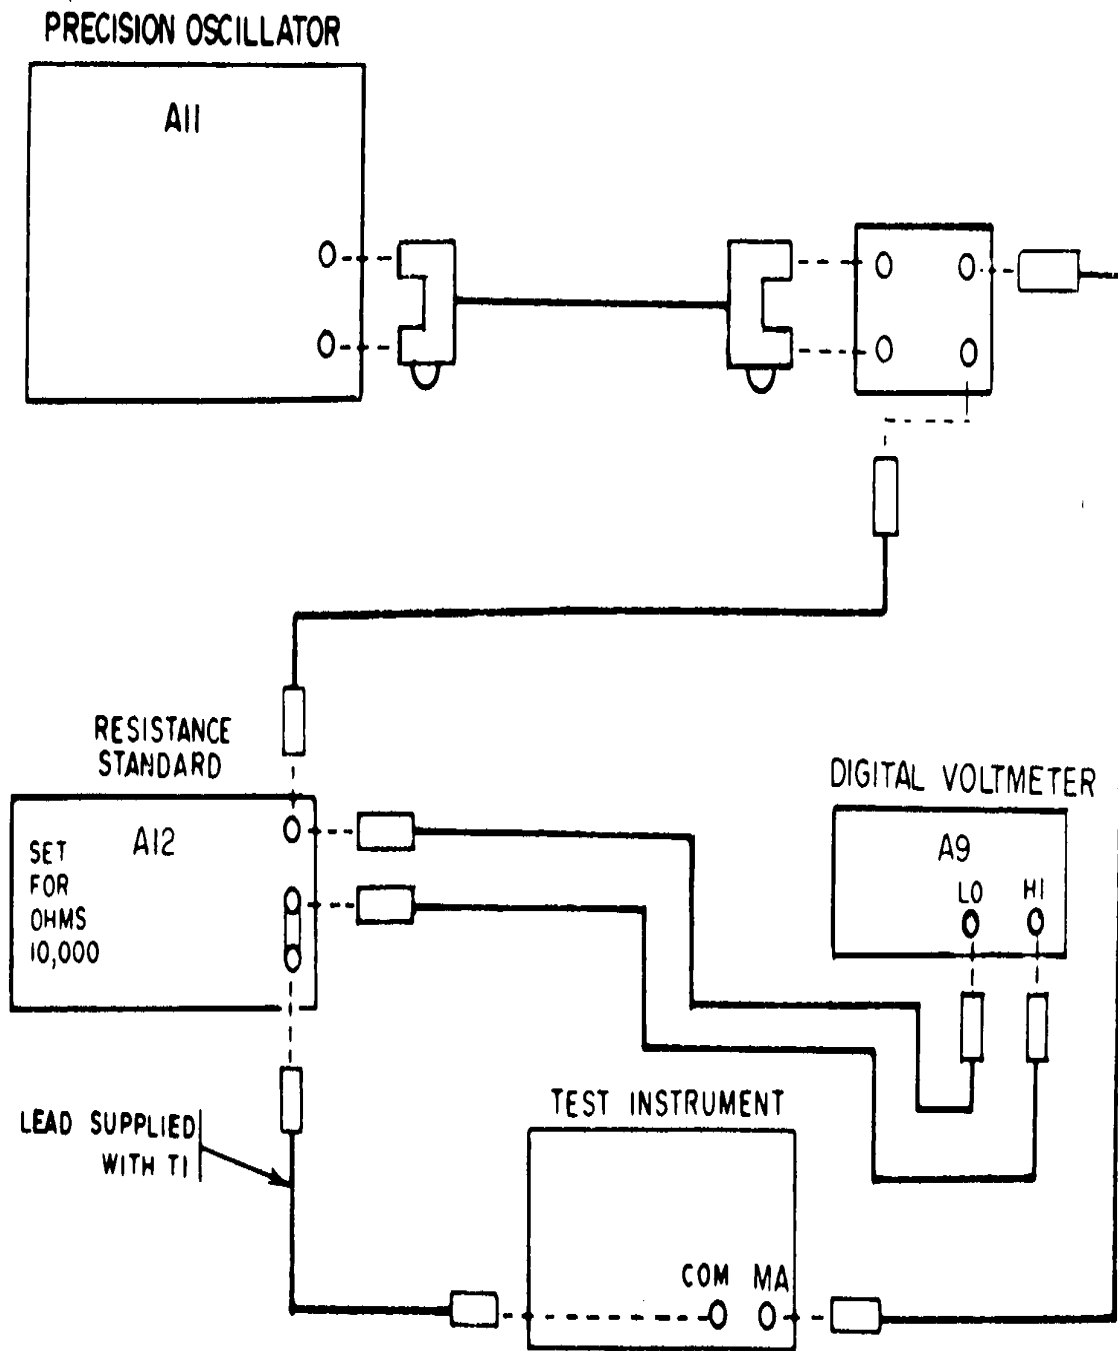

Figure 2A. Ac current - equipment setup.
(1) Set function switch to ac amps and range switch to first ac current range listed in calibration performance limits and adjustments table for TI being calibrated.
(2) Connect equipment as shown in figure 2A or B.